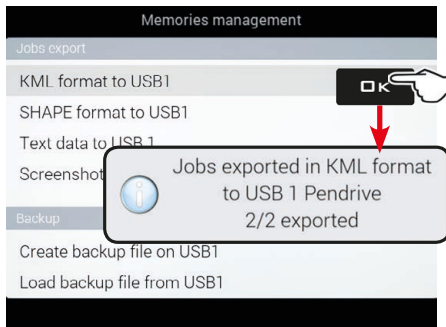

Fig. 296
- Select **KML format to USB 1** (Fig. 296) and press **OK**.